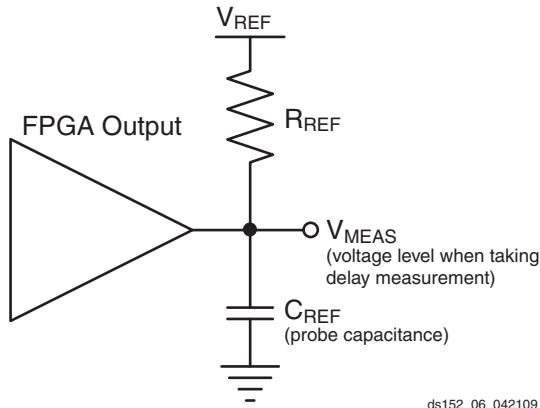
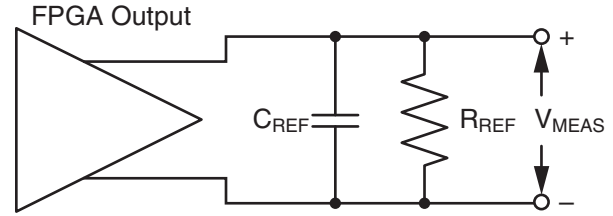

Figure 6: Single Ended Test Setup
Figure 7: Differential Test Setup
5. This is an input voltage reference that bears no relation to the  $V_{REF} / V_{MEAS}$  parameters found in IBIS models and/or noted in Figure 6.
Output delays are measured using a Tektronix P6245 TDS500/600 probe (< 1 pF) across approximately 4" of FR4 microstrip trace. Standard termination was used for all testing. The propagation delay of the 4" trace is characterized separately and subtracted from the final measurement, and is therefore not included in the generalized test setups shown in Figure 6 and Figure 7.